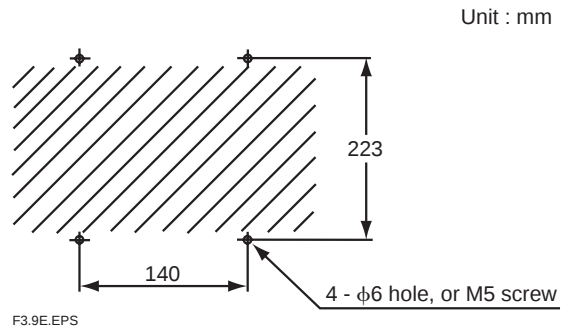

Figure 3.9 Mounting holes
(1) Make a hole in the wall as illustrated in Figure 3.9.